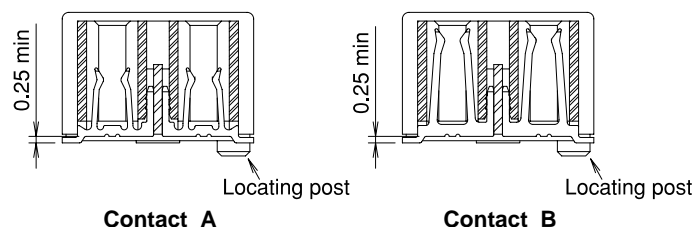

Fig. 2 Cross section of IT1 receptacle
The contacts of receptacle assembly are exposed on the bottom surfaces. The exposed areas of the contacts are a distance of 0.25 mm minimum from the surface of the Printed Circuit Board, on which the receptacle assembly is placed (Fig.2). Consideration should be taken not to place or assure insulation of conductive traces under the receptacle assemblies.
- Fully insert the tools into each end of the receptacle assembly (Fig. 1) assuring that they will be over the hold areas of the Transmission Module frame. Ref. Fig. 2